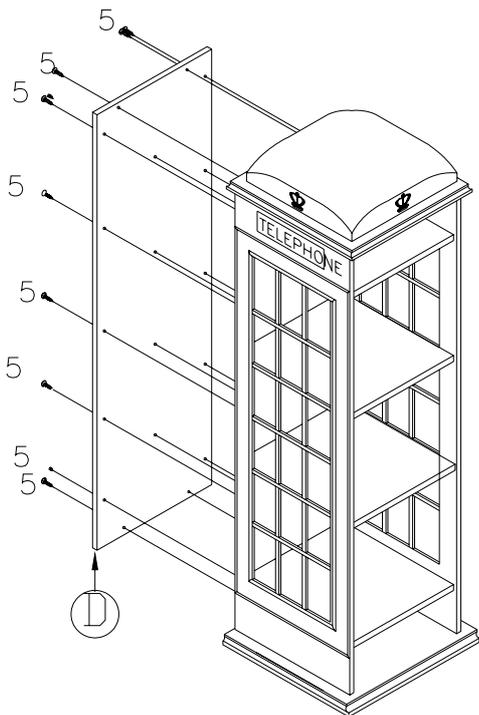

FIGURE 3
7. ATTACH BACK PANEL (D) INTO SLOTS OF PARTS (A, B, G, H). INSERT SHORT PAN HEAD WOOD SCREWS (5) THROUGH PREDRILLED HOLES ON BACK PANEL (D) AND TIGHTEN INTO CORRESPONDING HOLES ON REAR EDGES OF PARTS (A, B, E, F, G, H). AS FIGURE 3 SHOWN.